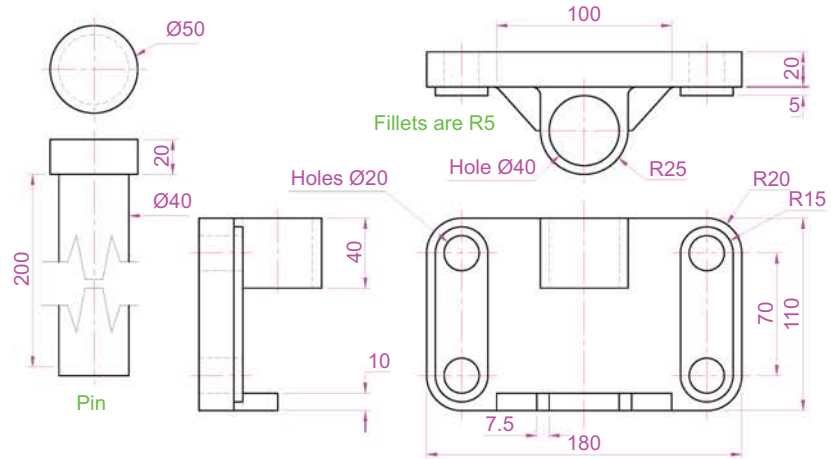

Fig. 19.13 First example – 3D models – details of sizes and shapes
1. **Front view.** Construct the three extrusions for the back panel and the two extruding panels to the details given in Fig. 19.13.